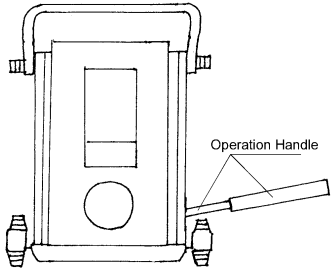

Figure 1
2.2 Insert operation handle into the socket and the piston. Refer to Figure 1. The piston rod is steadily by the up-and-down movement of the handle and a work is thus raised. It is so designed that the piston rod will stop rising when the required height is reached.